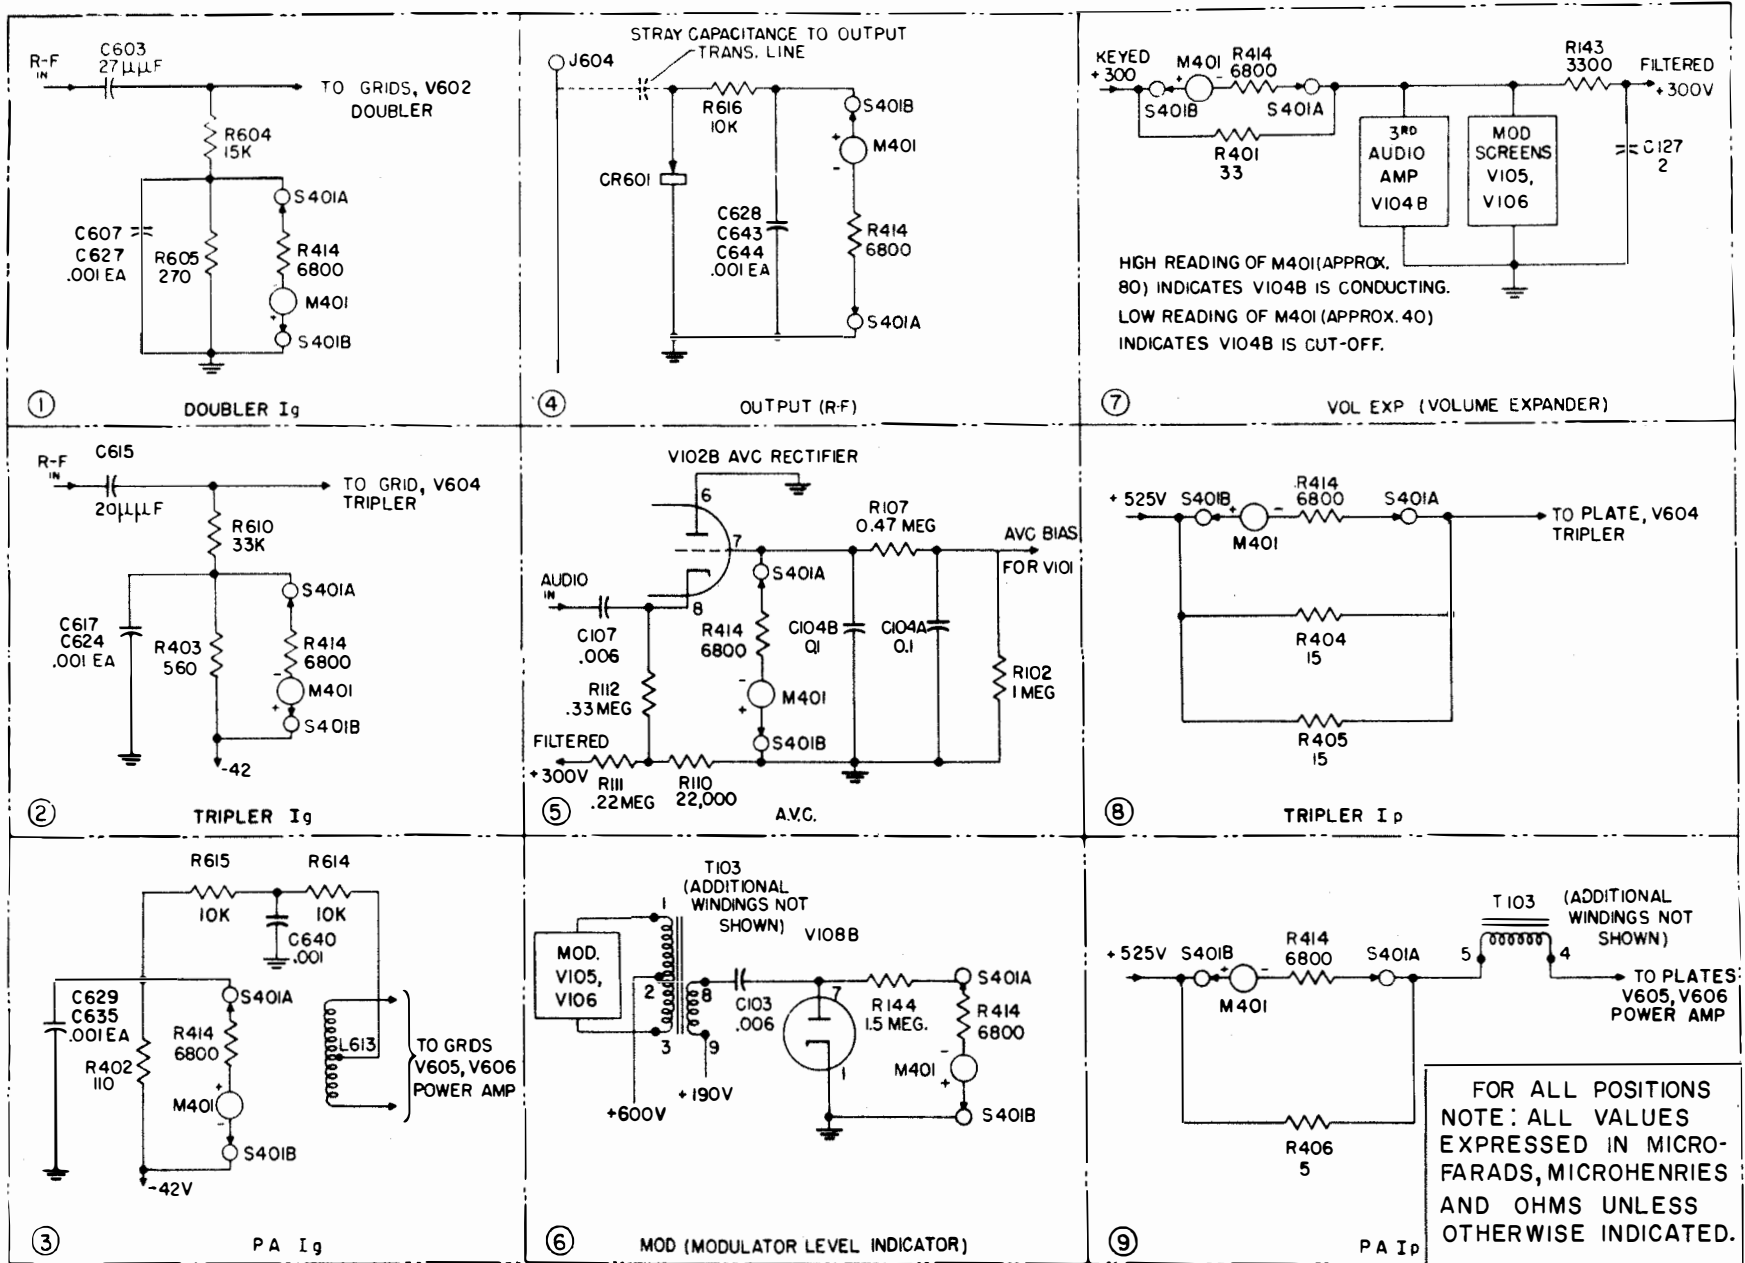

Figure 2-13. Meter Circuits for all Positions of METER Switch, Simplified Schematic Diagram
(10) MODULATION RECTIFIER.—V108B, half of a 5726/6AL5W twin diode, is used as a rectifier to provide a means of indicating the modulation level on M401; the circuit is shown in figure 2-13, switch position 6. The meter is in series with R144 and R414; the three components are connected across the diode and the screen-grid secondary winding of modulation transformer T103. The rectifier serves to shunt the meter on positive half-cycles of the audio signal but permits meter conduction on negative half-cycles. Therefore, the meter reading will indicate the relative modulation signal amplitude.
(11) AUDIO MONITORING CIRCUIT.—The audio monitoring circuit enables the operator to listen to the output of the receiver when the transmitted carrier is off, and to speech side-tone when the carrier is on. A simplified diagram of
d. **METERING CIRCUIT.**—The metering circuit is provided to enable personnel to tune and maintain the transmitter. All currents and voltages necessary for tuning and aligning the equipment are measured by meter M401; a simplified schematic diagram of each circuit associated with METER switch S401 appears in figure 2-13. The following conditions of operation can be measured: